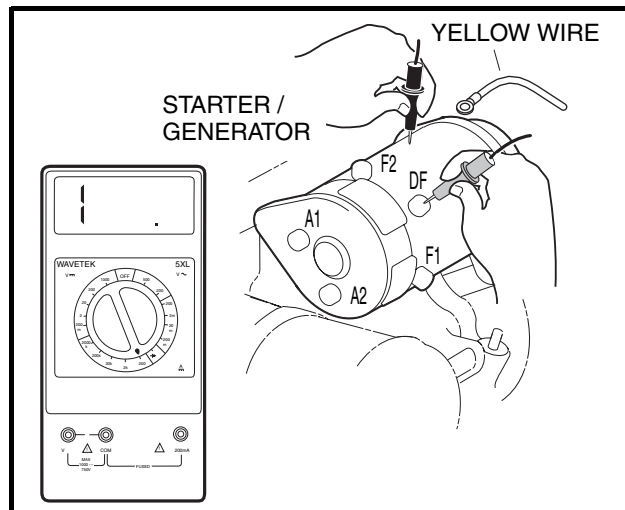

Figure 11-12 Check Terminal Continuity
3. Disconnect the wires from all the terminals on the starter/generator. Then place the black (–) probe of a multimeter, set to 200 (ohms), on the starter/generator housing (scratch through the paint to ensure a good ground). While holding the black (–) probe against the housing, place the red (+) probe (one at a time) on the A1, A2, F1, F2 and DF terminals respectively (**Figure 11-12, Page 11-16**). The readings should be no continuity. If the readings are incorrect, the starter/generator will need to be removed from the vehicle and disassembled by a qualified technician. **See Starter/Generator Removal, Section 12, Page 12-1.**